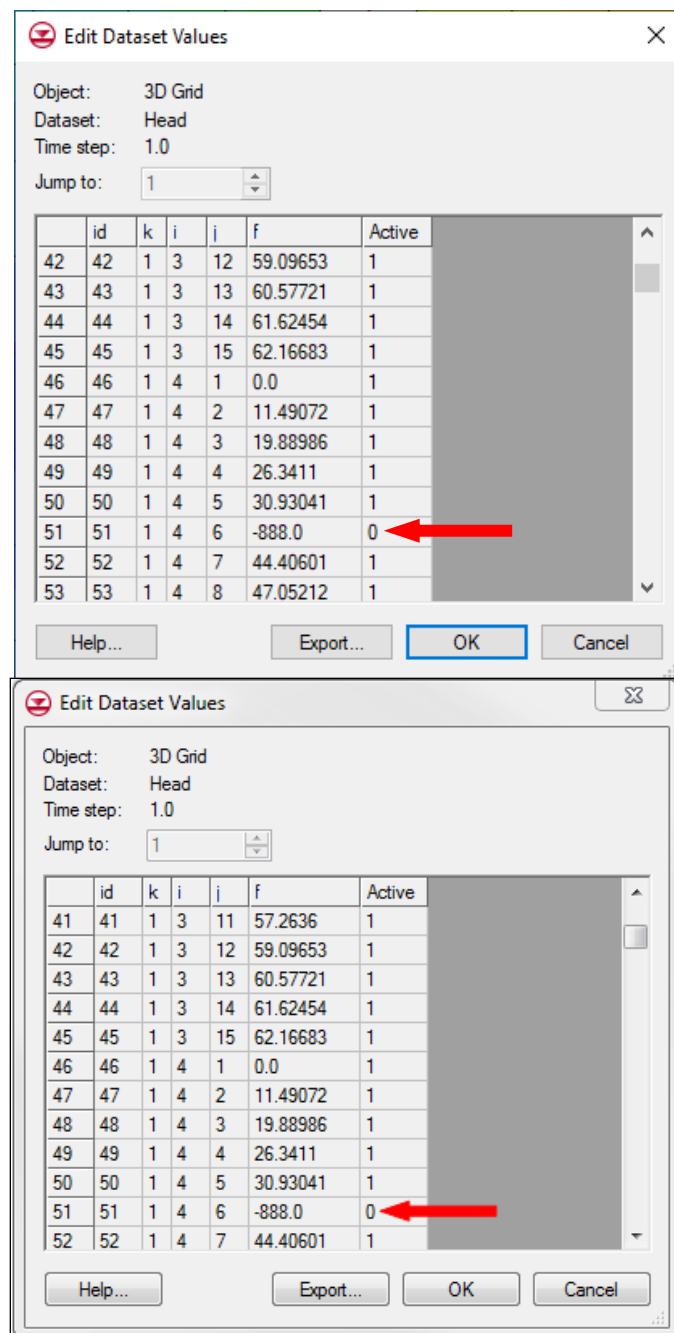

Figure 8 HDRY value in head solution
6. Scroll down to row 51 and notice the “-888.0” value in the *f* column for that cell. Also notice the “0” in the *Active* column (Figure 8).